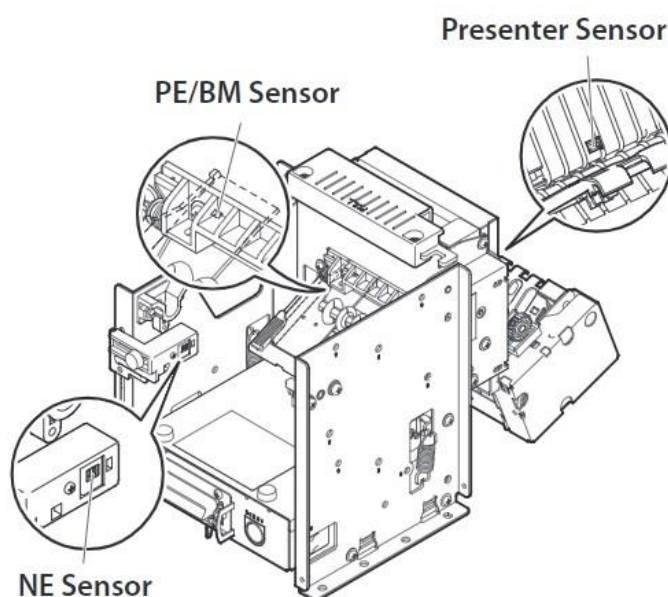

Figure 78. Printer Roller Cleaning
- Locate the Presenter, PE/BM and NE sensors as per Figure 78